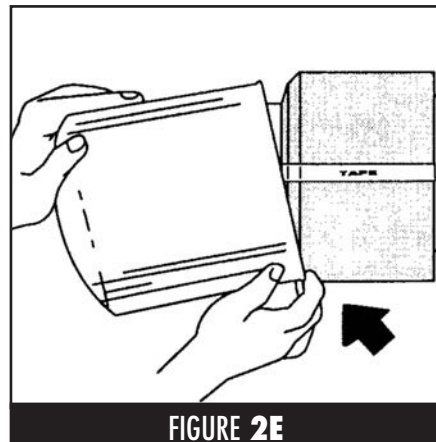

FIGURE 2E
- To install high hat over the foam ring, start by sliding high hat over foam from bottom side. (See Figure 2E) Next, holding high hat firmly with one hand, tuck foam into high hat with the other hand all the way around the ring until entire ring has started to feed into high hat.